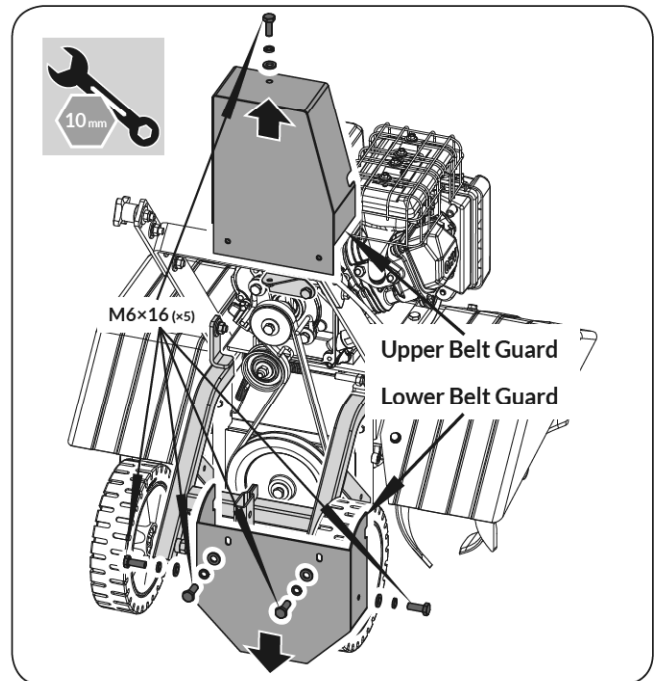

Figure 16a
1. Remove the one bolt in the upper belt guard and four bolts in the lower belt guard to expose the belt assembly. (See **Figure 16a**)